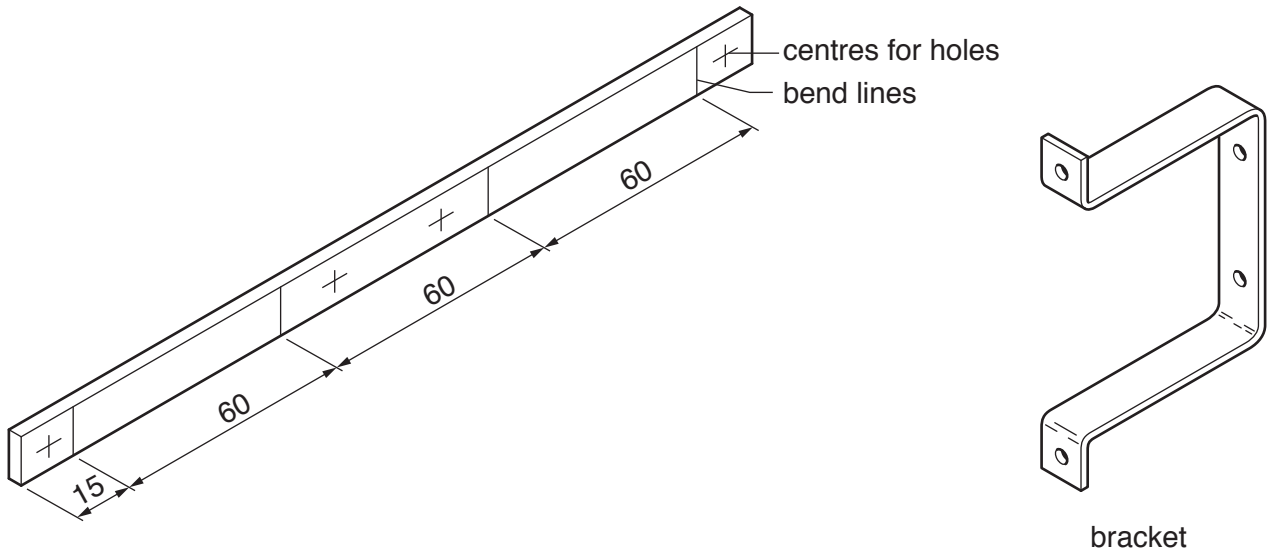

Fig. 12
- (d) Fig. 12 shows a strip of stainless steel marked out ready to be bent to the shape of the bracket.